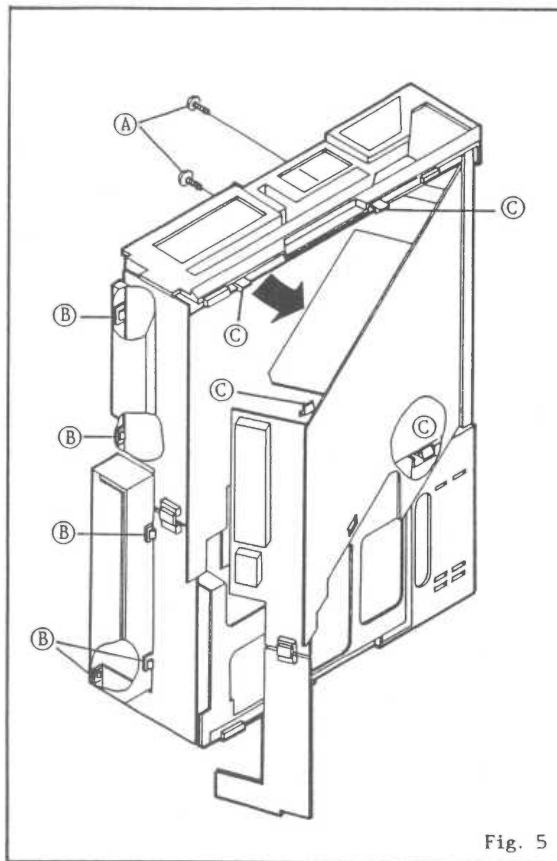

Fig. 5
5. REMOVAL OF PCB OPERATION 1, 2, MAIN (See Fig. 5)
- A) Remove 2 screws (A) which are used for fixing the Jack Plate.
B) Remove 5 PCB supports (B) which are used for fixing the OPERATION 1 and 2. Then, remove 4 PCB supports (C) which are used for fixing the MAIN PCB.